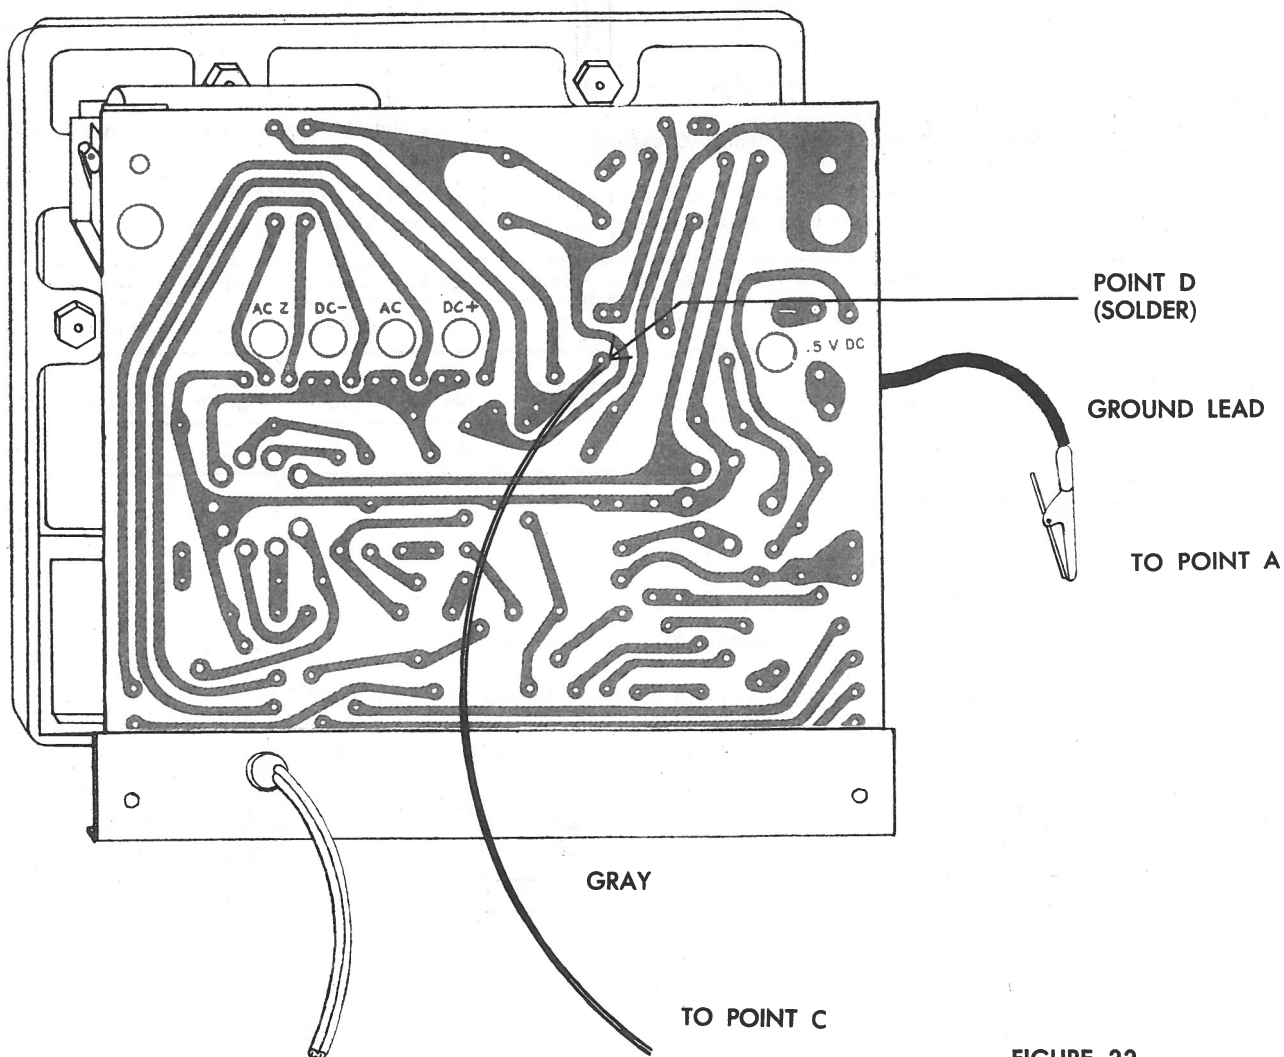

FIGURE 22
28. ☒ Remove the power-cord plug from the AC outlet. Solder one end of the 6-inch gray wire to point "D" on the rear of the laminated board, as shown in Figure 22. This is the point where one lead of R-11 is connected to the foil circuit.